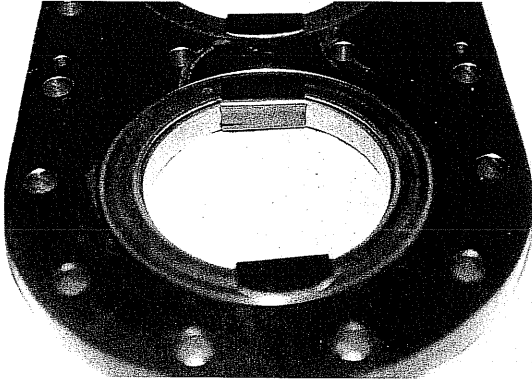

**Fig. 113 Spring and Coil Spring**
- b) Mount the suction valve on the valve plate and fix to the plate using the valve retainer provided (Fig.113). Carry out this work on two cylinders at a time.